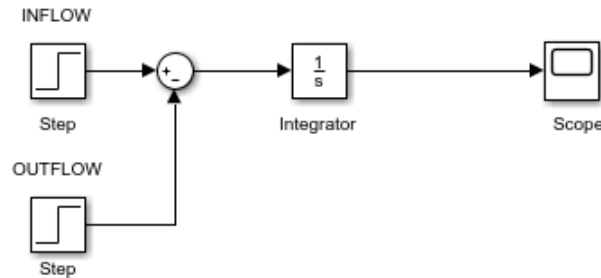

Figure 5: Tank model in SIMULINK.
The tank model expressed mathematically in (2) can be constructed in SIMULINK as shown in Figure 5. We need two step blocks, one integrator block, and one scope block. The step
- Create the block diagram in Figure 5, and simulate the response for different values of inflow, outflow and initial volume. Consider linking the source block parameters to appropriate variables in the MATLAB workspace set up by running the script developed above. The value of a parameter can be changed by changing the corresponding assignment command in the script and re-running the script, or just that command.